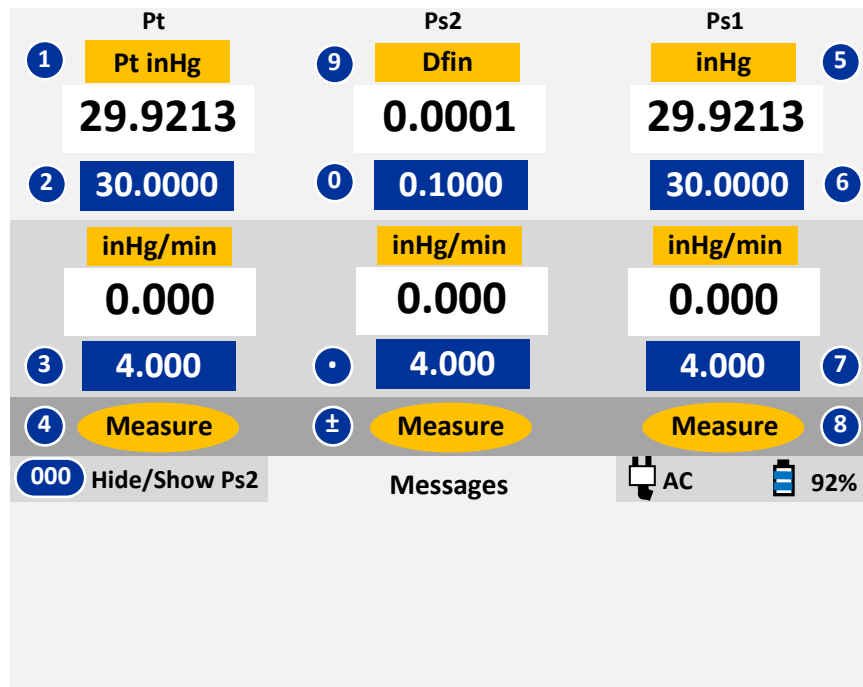

Figure 3.10 : Select Dfin
For example, if units of 'Diff. inHg' is to be selected, in the 'Ps2 units (1)' screen, press '2'. The Lower section will blank out and the Upper section will appear as shown in Figure 3.10 below.